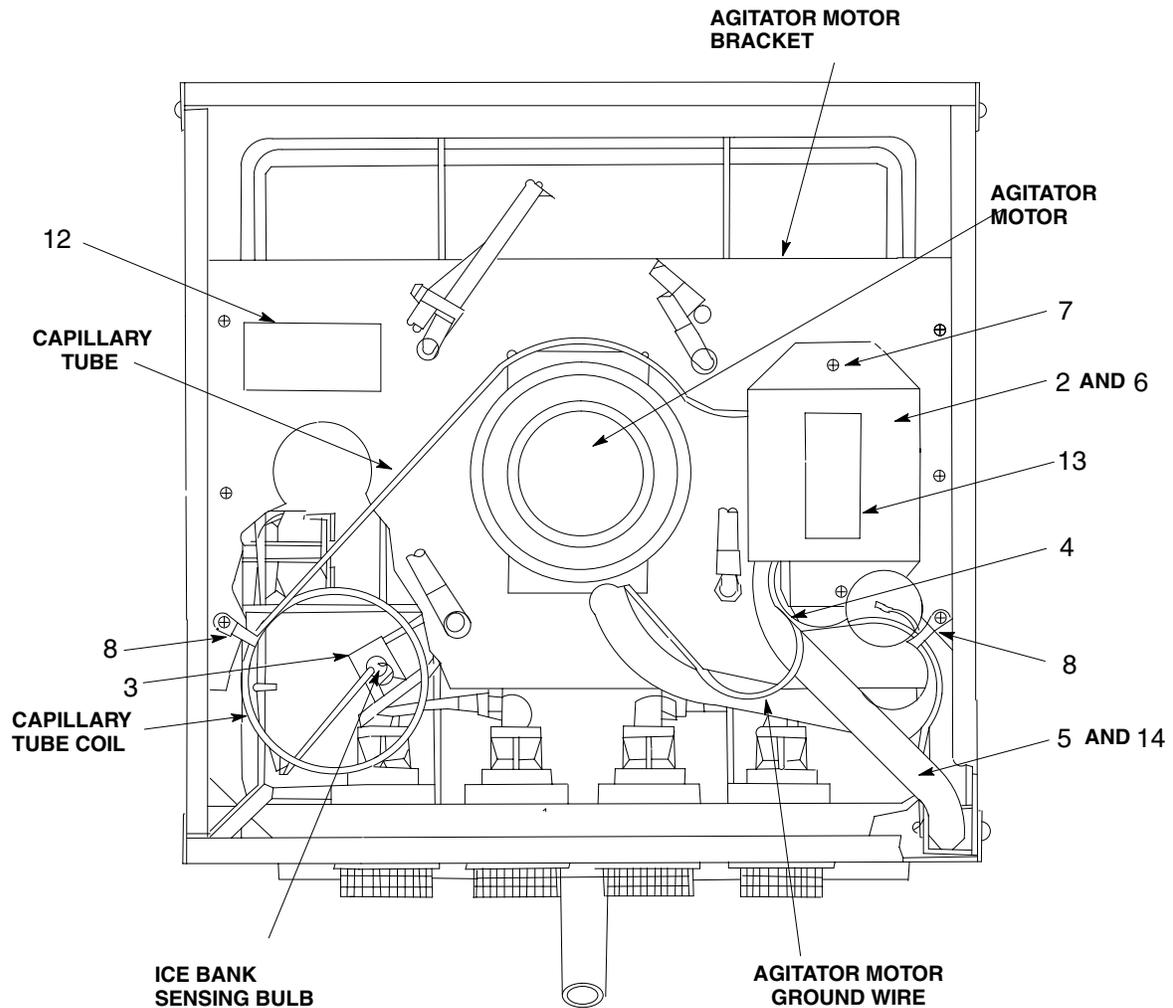

FIGURE 1. PARTS IDENTIFICATION
INSTALLING MECHANICAL ICE BANK CONTROL KIT (SEE FIGURE 1)
1. Place BOX, ICE BANK CONTROL (item 6) on agitator motor bracket as shown in Figure 1. Pencil mark two mounting holes to be drilled in bracket, then remove box.
3. Note metal flap covering top of conduit in corner of cabinet where agitator motor power cord is routed into bottom compartment of cabinet (see Figure 1).
5. Very carefully uncoil and route ICE BANK CONTROL (item 3) sensor end of capillary tube down to white ring holder on front of product coils.
6. Place capillary tube sensor in white ring holder. While holding sensor in place in holder, position SENSOR RETAINER (item 3) over ring holder and sensor so sensor bottom is resting on bottom of retainer.
8. Lower product coils down into position inside evaporator coils, then connect product lines to backs of dispensing valves. Route capillary tube up along insulated evaporator coils inlet and outlet tubes in corner of cabinet as shown in Figure 1.
11. Lay BOX, ICE BANK CONTROL (item 2) bottom side up on agitator motor bracket.
12. Install ice bank control inside BOX, ICE BANK CONTROL (item 2) and secure with MACHINE SCREWS (item 1).
13. Place capillary tube in slotted hole in ice bank control box, then install GROMMET (item 11) around capillary tube and in hole in control box.
14. Slide RUBATEX INSULATION (item 14) up over female terminal end of POWER CORD, ICE BANK CONTROL (item 5).
15. Route female push-on terminal of POWER CORD, ICE BANK CONTROL (item 5) through larger hole to inside of ice bank control box.
17. Install STRAIN RELIEF (item 9) around power cord, then install strain relief in ice bank control box hole.
18. Route GROUND WIRE (item 4) through hole in ice bank control box and connect to threaded ground stud inside box. Secure connection with HEX NUT (item 15).
20. Route agitator motor green ground wire through hole (same hole ice bank control box ground wire passes through) to inside of ice bank control box and connect to threaded ground stud. Secure connection with HEX NUT (item 15).
21. Install STRAIN RELIEF (item 10) around ground wires, then install strain relief in ice bank control box hole.
22. Turn ice bank control box over and align its mounting holes with holes drilled in agitator motor bracket. Secure control box to agitator motor bracket with two SCREWS (item 7).
23. Very carefully, coil excess capillary tube as shown in Figure 1.
24. Secure coiled capillary tube to agitator motor bracket with WIRE TIE (item 8)
25. Secure capillary tube to insulated evaporator coil refrigeration tubes routed up through corner of cabinet with wire tie (item 8).